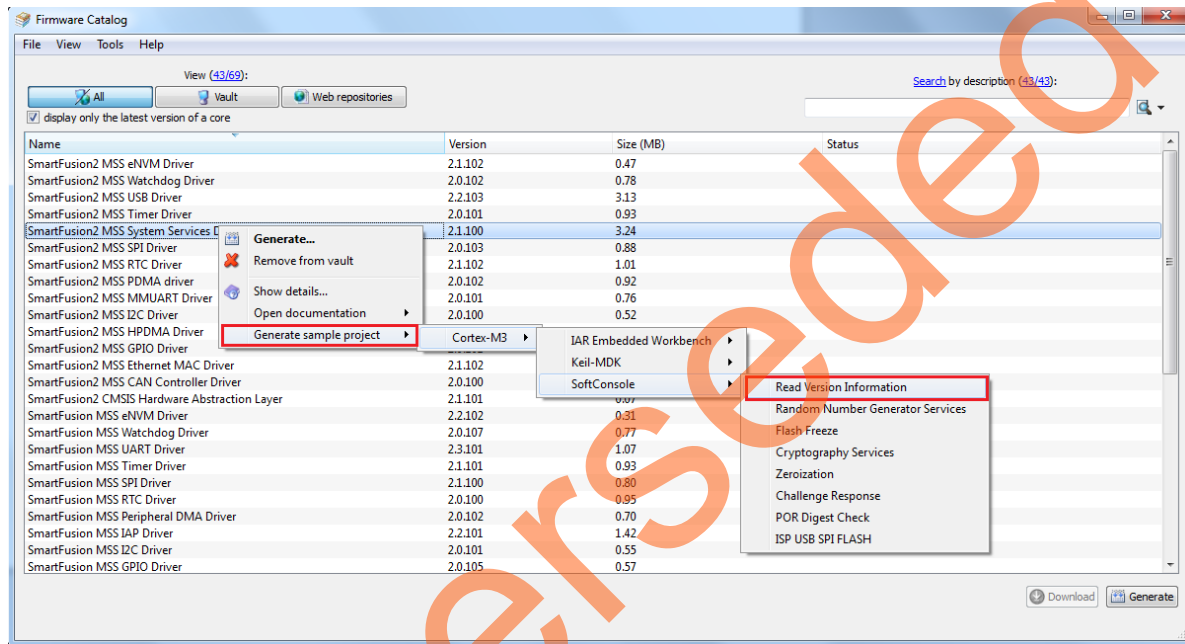

Figure 1 • Downloading Sample Project from Firmware Catalog
1. Click **Start > Programs > Microsemi SoC Libero SoC 11.3 > Firmware Catalog v11.3 > Firmware Catalog**. Right-click on **SmartFusion2 MSS System Services Driver** and select **Generate Sample Project > Cortex-M3 > SoftConsole > Read Version Information** as shown in Figure 1.